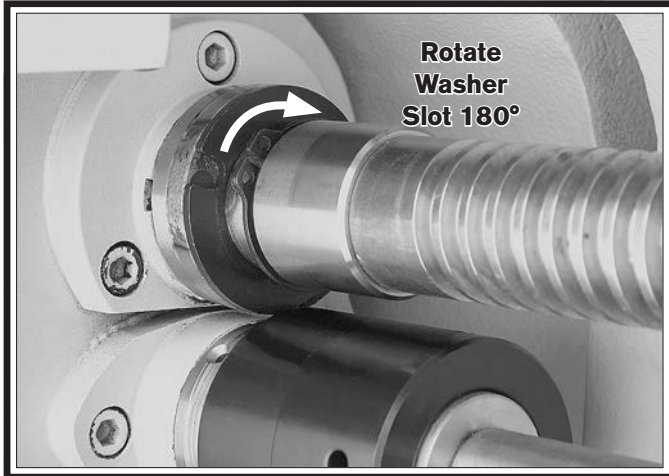

Figure 135. Shroud washer positioning.
9. With the pin completely seated in the bore and the head flush with the leadscrew shoulder, slide the shroud washer against the shoulder, then rotate the washer 180° to completely cover the head of the shear pin, as shown in **Figure 135**.